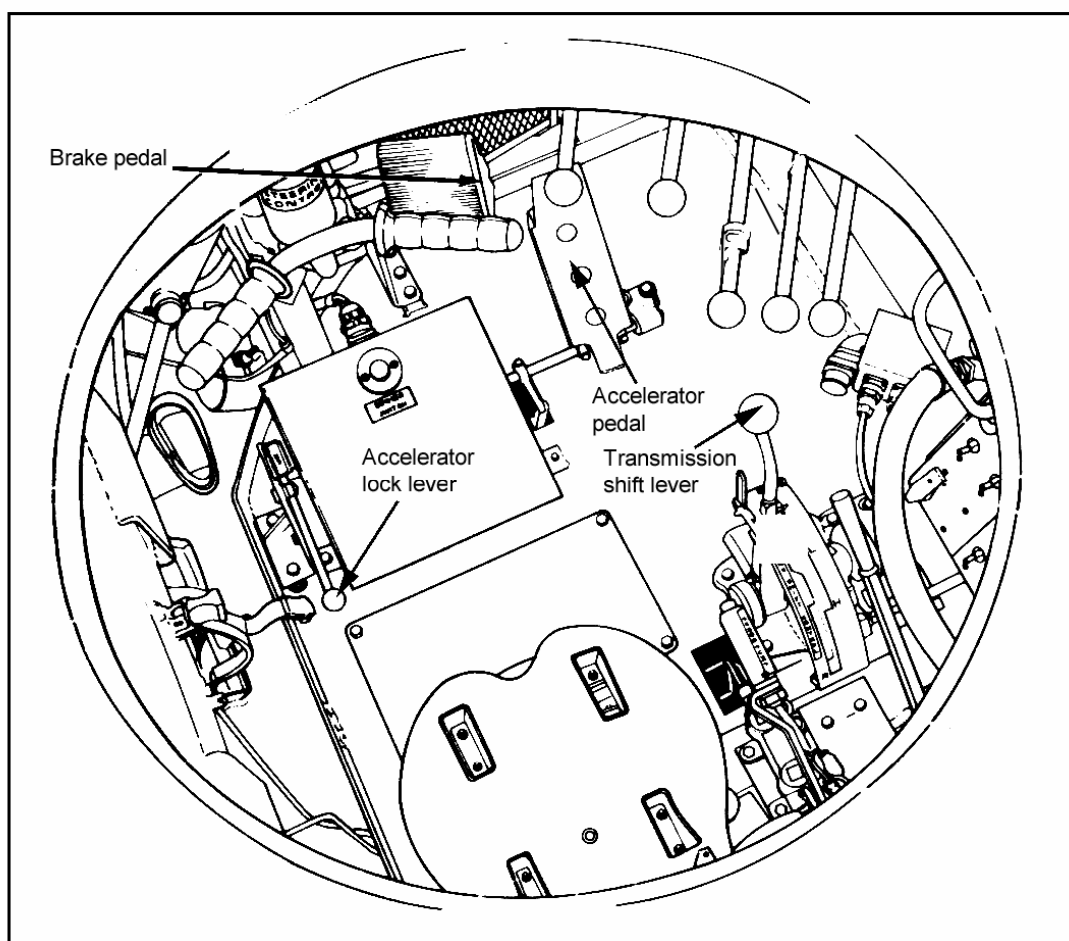

Figure 052-225-1250-1
**Conditions:** As an AVLB operator in a field environment, given an operational AVLB (an M48 or M60 tank chassis) with a completed before- and during-operation preventive-maintenance checks and services (PMCS), with the vehicle's engine running. The track commander (TC) has given the order to stop the vehicle's engine.
1. Bring the moving vehicle to a stop by releasing the accelerator pedal and gradually pressing down on the brake pedal until the vehicle stops (Figure 052-225-1250-1).
2. Move the transmission shift lever to the neutral position (Figure 052-225-1250-1).